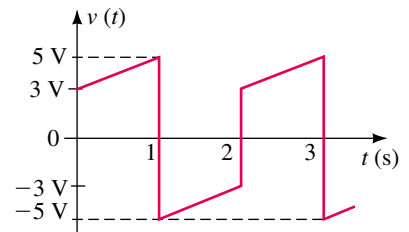

FIGURE 25-62
- The waveform of Figure 25-62 is made up of two fundamental waveforms from Table 25-1. Sketch the two waveforms and determine the Fourier series of the composite wave.